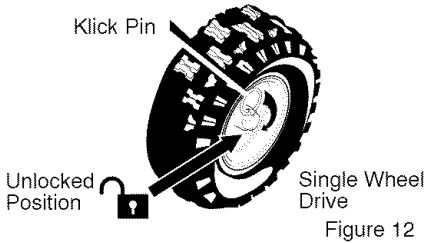

Figure 12
- For ease of maneuverability in light snow conditions, disconnect the **klick pin** from the wheel **locked position** and push into the single wheel drive position (**unlocked axle hole only**). See Figure 12.